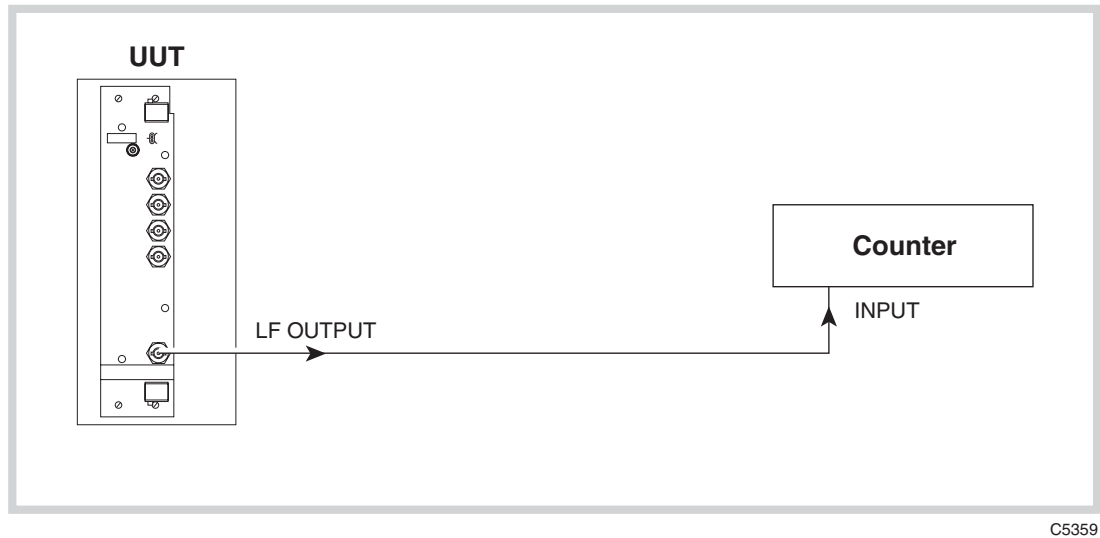

Fig. 5-13 Modulation oscillator frequency test set-up
- (1) Connect the test equipment as shown in Fig. 5-13.
- (2) On the UUT set: